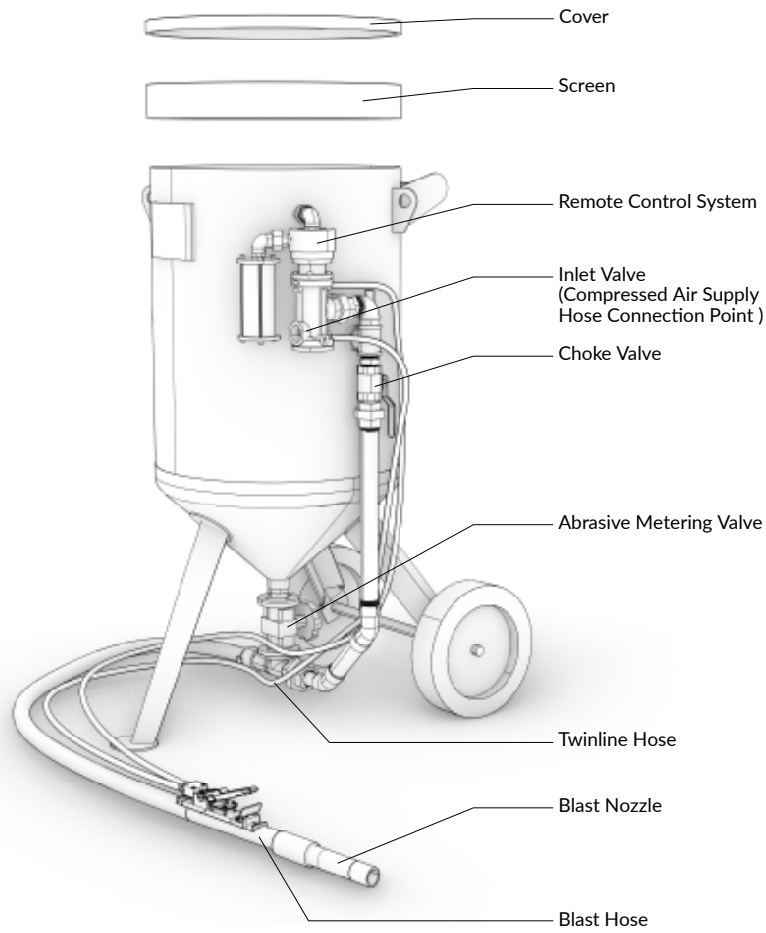

Figure 1
2.2 The basic components of the automatic blast machine models are shown in Figure 1 & 2.